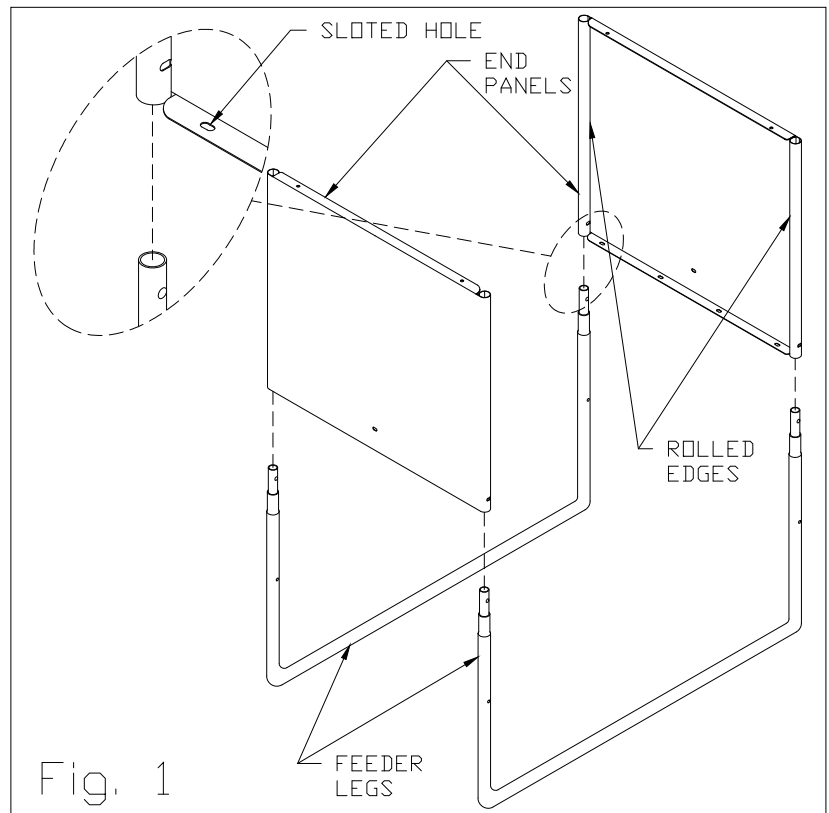

Fig. 1
Slide the two End Panels onto the Feeder Legs, with the (4) slotted holes on the bottom of each panel, and the rolled edges on each panel facing inside the feeder as shown in figure 1.